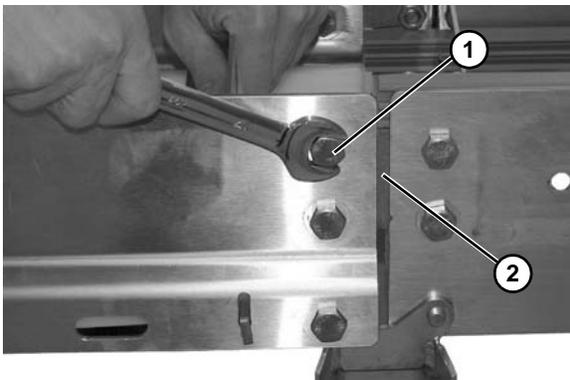

Figure 49
2. Remove two hex head bolts (**Figure 49, item 1**) holding straight section frame to section connecting bracket (**Figure 49, item 2**). Repeat on opposite side.